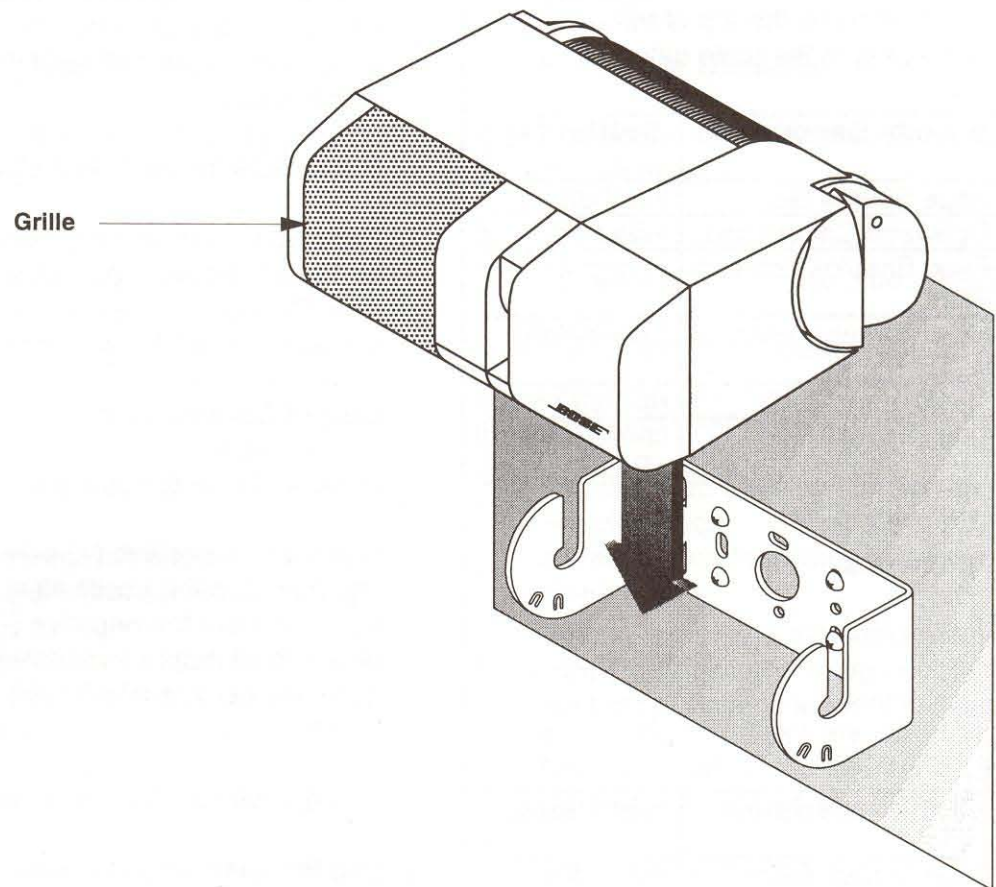

Figure 3. Surface-mount Loudspeaker
2. Place the grille over the twiddler section of the enclosure (Refer to **Figure 3** for the correct orientation). Press the grille until it snaps into place.